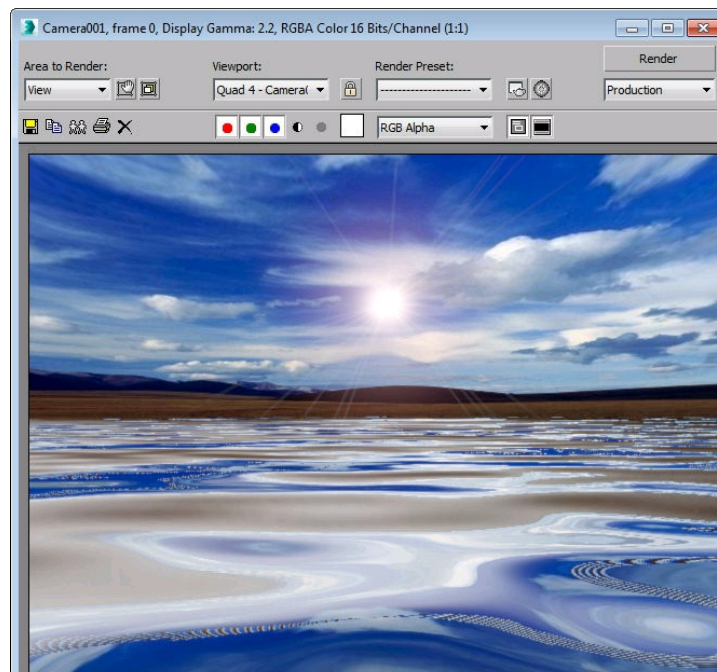

Figure 13-63 The final output of the scene
2. Choose the **Render Production** tool; the **Rendered Frame** window is displayed showing the final output of the scene at one frame, as shown in Figure 13-63.